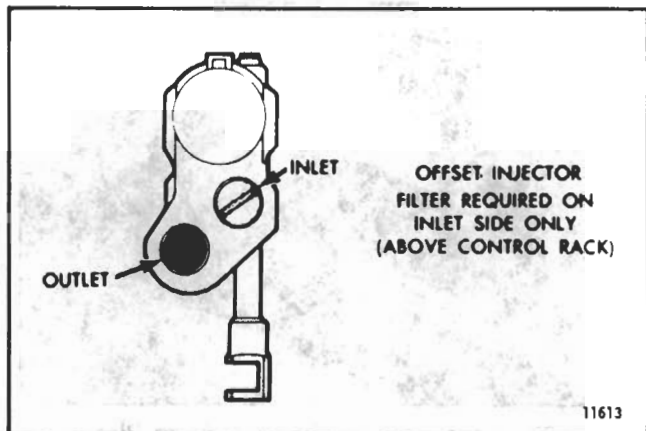

Fig. 35 - Location of Filter in Injector Body
**NOTE:** Whenever a fuel injector is disassembled, discard the filters and gaskets and replace with new filters and gaskets. *In the offset injector, a filter is used in the inlet side only. No filter is required in the outlet side (Fig. 35).*
Study Figs. 35 through 38 for the proper relative position of the injector parts, then proceed as follows:
**NOTE:** Install a new filter in the inlet side (located over the injector rack) in a fuel injector with an offset body. No filter is required in the outlet side of the offset body injector (Fig. 35).